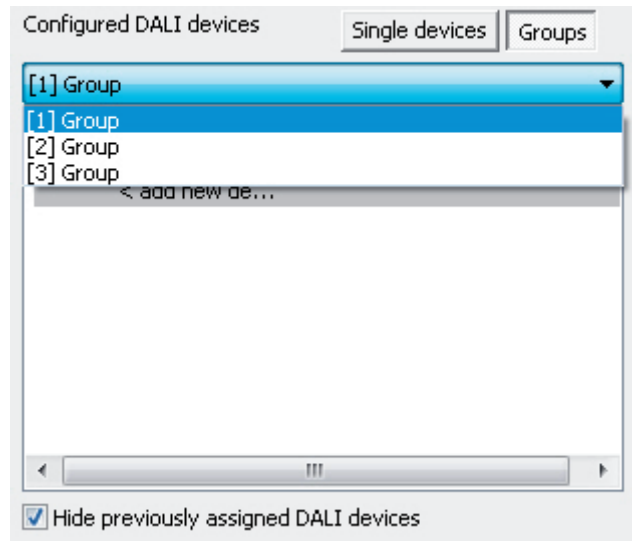

Figure 67: Selecting a group
- In the left-hand section of the DALI commissioning environment, select the required group to which the operating devices are to be added.(Figure 67).